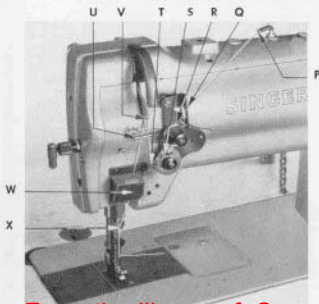

Figure 12
THREADING OF NEEDLE THREAD (Figure 12)
thread guide "P", Fig. 12, which is mounted on the arm cover. From there, pass the thread through the three (3) holes of the thread tensioner guide "Q". Starting with the top hole, thread from right to left, from left to right through the middle hole, and from right to left through the bottom hole. Pass the thread over and between the tension discs "R", from right to left, and wind it under and around thread controller "S" from right to left. It is placed under the controller spring "T" and over the controller projection so that the controller spring holds the thread down. Pull the thread through the thread guide "U" and then from right to left through the eye of the thread take-up "V". Pass it back again through the thread guide "U", lead it behind the oil felt pad "W" and then draw the thread through the thread guide "X", and from left to right through the eye of the needle.